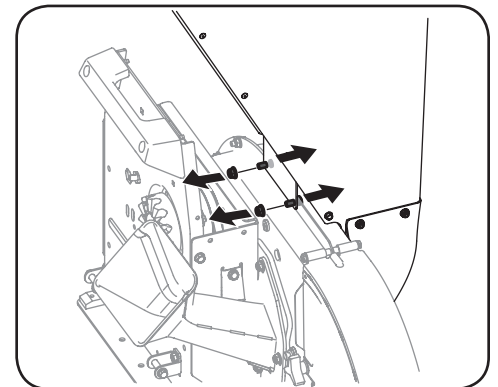

Figure 5-5
3. Remove the two flange nuts (and hex bolts) which secure the hopper support bracket to the impeller housing. Retain the hardware. See Figure 5-5.